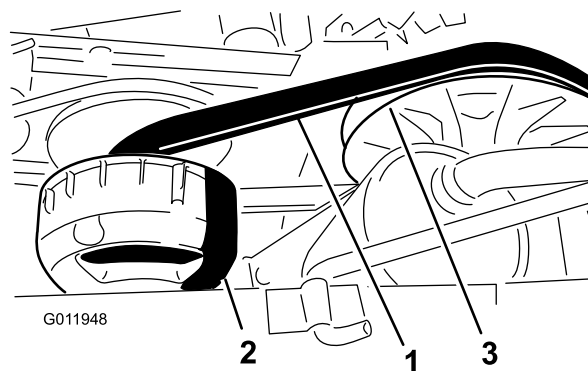

Figure 53
4. Rotate and inspect the belt (Figure 53) for signs of excessive wear or damage.
3. Rotate and route the belt over the secondary clutch (Figure 53).
4. Remove the belt from the primary clutch (Figure 53).
5. Align the new belt over the primary clutch (Figure 53).
6. Rotate and route the belt over the secondary clutch (Figure 53).